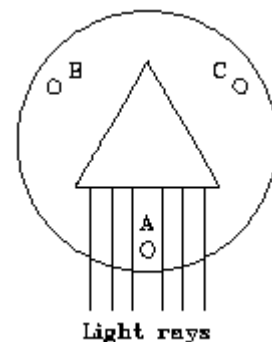

Fig 5. Step A.
(A) Place the prism on the prism table as shown in Fig. 5, with one of its smooth faces parallel to the line joining two leveling screws. Look at the reflected image from this face. Bring the crosshairs into vertical alignment with the telescope screw, the prism screw (A), or both.